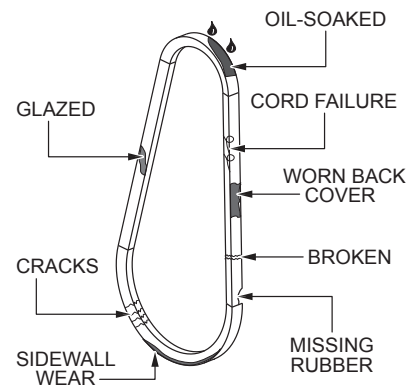

Figure 54. V-Belt Inspection
1. Inspect the V-belt (Figure 54) to determine if it is frayed, peeling, full of tiny cracks, has pieces of rubber missing, or is otherwise damaged.
2. Inspect the V-belt (Figure 54) to determine if it is oil-soaked or glazed (a hard, shiny appearance on the sides of the belt). Either of these conditions can cause overheating of the belt, which can weaken the belt and increase the danger of it breaking.